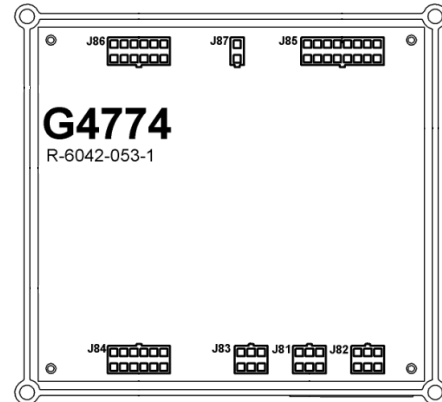

Figure 6 – Motor Control board plugs locations
4. Unplug the connectors **J81**, **J82**, **J83**, **J84**, **J85** and **J86** from the motor control board. See **Figure 6** for plugs locations.